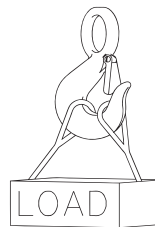

Figure 3
- When placing two (2) sling legs in hook, make sure the angle between legs is small enough and the legs are not tilted so that nothing bears against the bottom of the latch (See Figures 3 & 4).